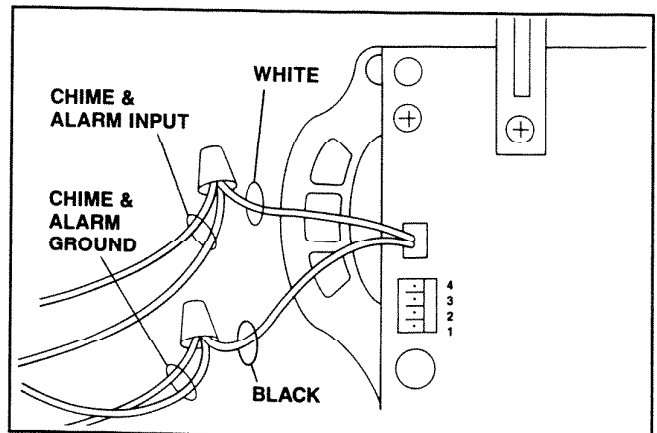

FIGURE 19
5. For hook-up of both a security system and an electronic chime connect the two wires from the security and the two wires from the chime to the black and white wires shown in Figure 19.